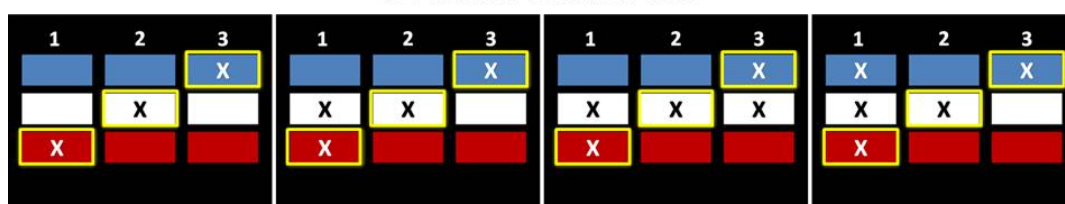

Figure 3-4: ASSIST Examples
ASSISTS are earned when a unique ALLIANCE ROBOT POSSESSES the ALLIANCE'S BALL in a unique ZONE (i.e. red, white, or blue ZONE) during a CYCLE. A ROBOT is considered in a ZONE if it is in contact with the carpet in a ZONE or the tape marking the ZONE, but not in contact with carpet or tape for another ZONE. Because there are up to three (3) ALLIANCE ROBOTS and three (3) ZONES, the maximum number of ASSISTS in a single CYCLE is three (3). Examples of the number of ASSISTS credited to an ALLIANCE are shown in Figure 3-4 (X = POSSESSION, yellow highlight = credited ASSIST, ROBOT IDs are across the top, ZONES are depicted by color).